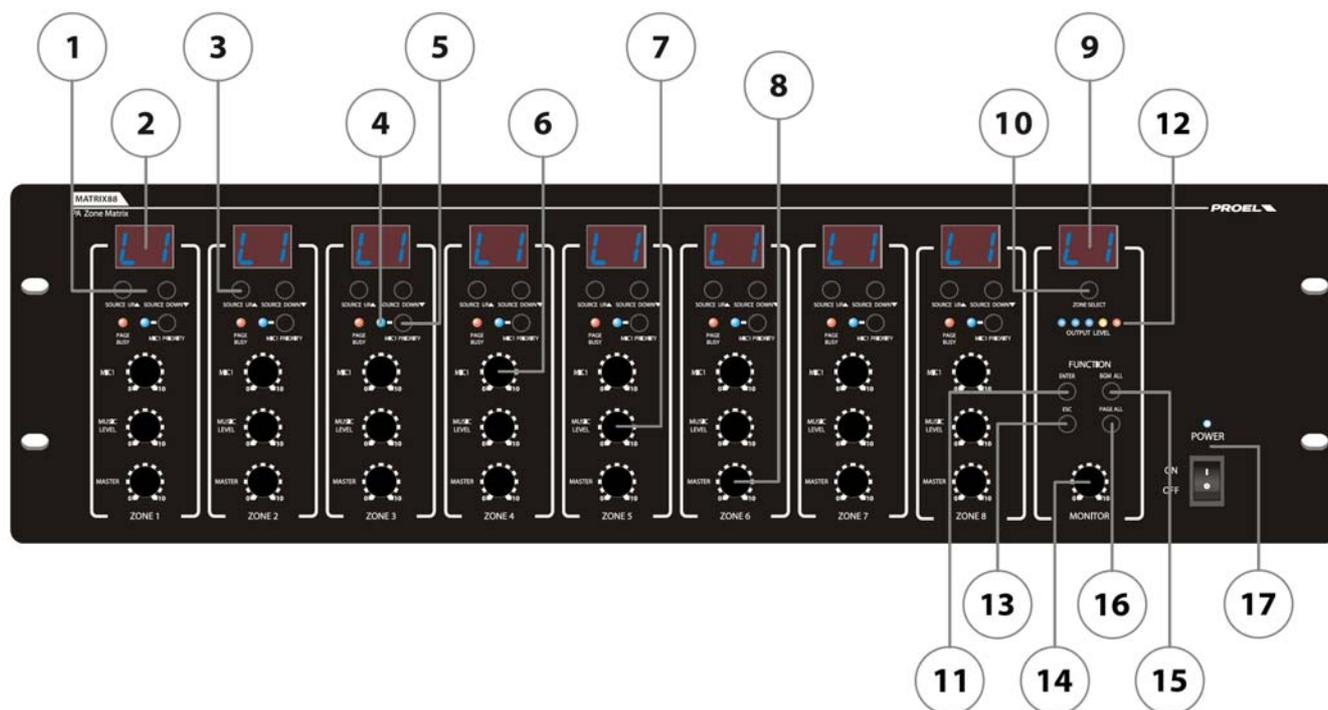

fig.1
It displays the number of the zone that is being monitored (from 1 to 8) and selected through ZONE SELECT (fig. 1, ref. 10)
When you press ZONE SELECT the display (fig. 1, ref. 9) indicating the zone (from 1 to 8) that will be monitored will start flashing. Press ZONE SELECT again to switch to the successive zone and when you get to the zone that you wish to monitor, press ENTER (fig. 1, ref. 11) to confirm selection (if you do not confirm within ten seconds, the system will go back to the zone previously selected).
Use this button to confirm selections made through ZONE SELECT (fig. 1, ref. 10) or BMG ALL (fig. 1, ref. 15)
Indicates the output signal level of the zone visualized on the Display (fig. 1, ref. 9). To use the amplifier correctly the volume needs to be set between -20 dB and 0 dB and only the first three LEDs should be lit; if the last 2 LEDs ($+3$ dB and $+6$ dB) light, the output signal could distort and the volume should probably be turned down.
When you press BGM ALL all the displays showing the source playing in their zone (fig. 1, ref. 2) will indicate "L1" and start flashing. If you press BMG ALL once more, the displays will show "L2" and so on. Press the ENTER button (fig. 1, ref. 12) to confirm your selection.
- The MASTER control on the front panel (fig. 1, ref. 8) is not affected by the activation of the remote control.
- The MUSIC LEVEL control on the front panel (fig. 1, rif. 7) will work only if the ZONE REMOTE CONTROL button is not pressed or if the remote control is not connected.